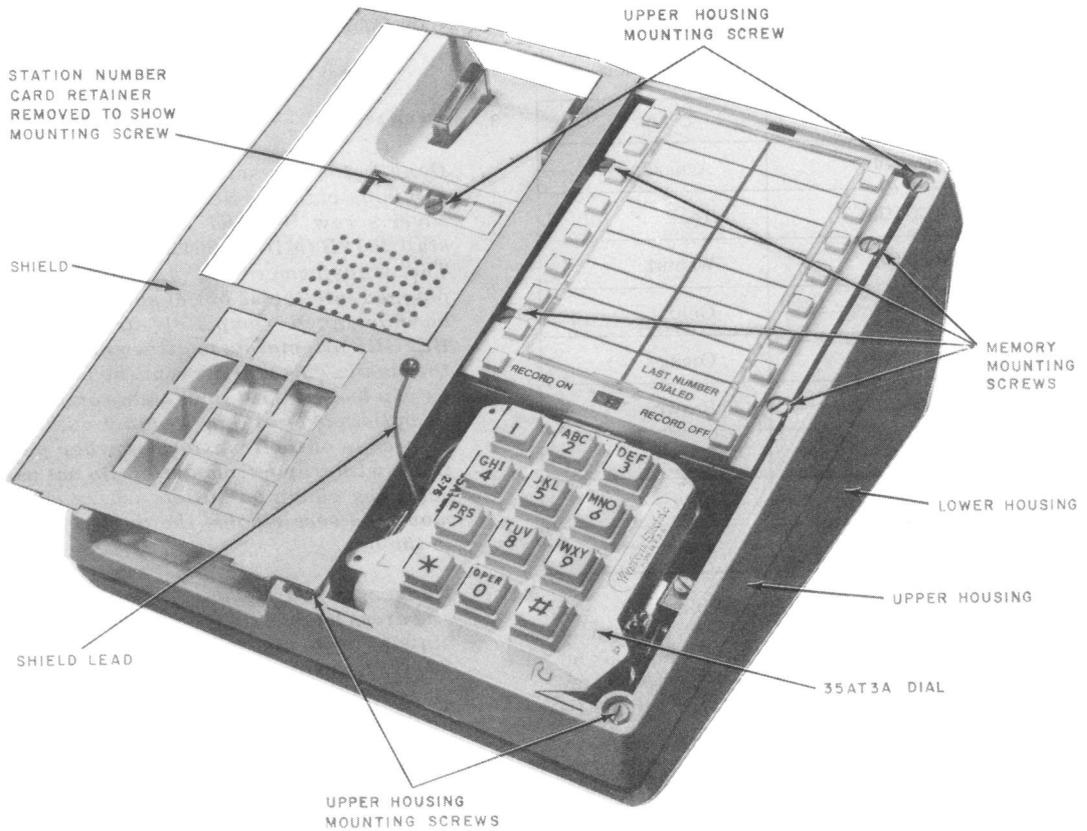

Fig. 4—2960A01M (MD) Telephone Set With Handset and Faceplate Removed and Shield Laid Aside
- 841417165 Shield and Lead Assembly (Fig. 4)
- (4) Insert the three leads from the switch assembly between the circuit board and the chassis under the memory.
- (5) Replace the lower housing and place the set upright.
- (6) Remove faceplate (paragraph 3.15).
- (7) Disengage the four captive memory mounting screws (Fig. 4).
- **Shield** is underneath faceplate and is positioned over the dial and memory (Fig. 4).
- **TOUCH-TONE Telephone Dial** is fastened by two screws and located on the top side at right-front corner of the chassis (Fig. 4).
- **Memory** is fastened by four screws and located just to the rear of the dial on the top right side of the chassis (Fig. 4).
- **Upper Housing** is fastened by four screws to the top side of the chassis (Fig. 4).